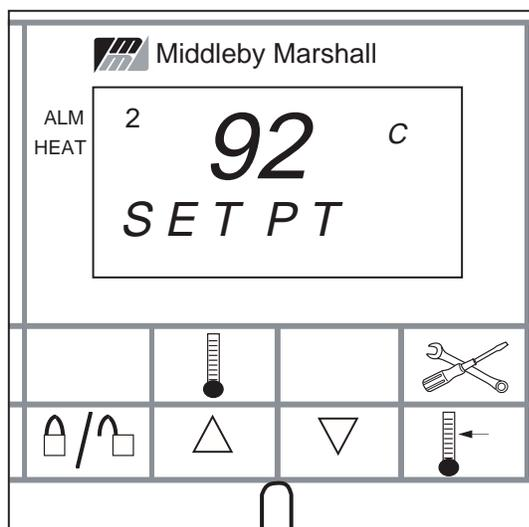

Figure 3-9
- a. ALM - The ALM window will display either a “2” or will be blank. See Figure 3-9.